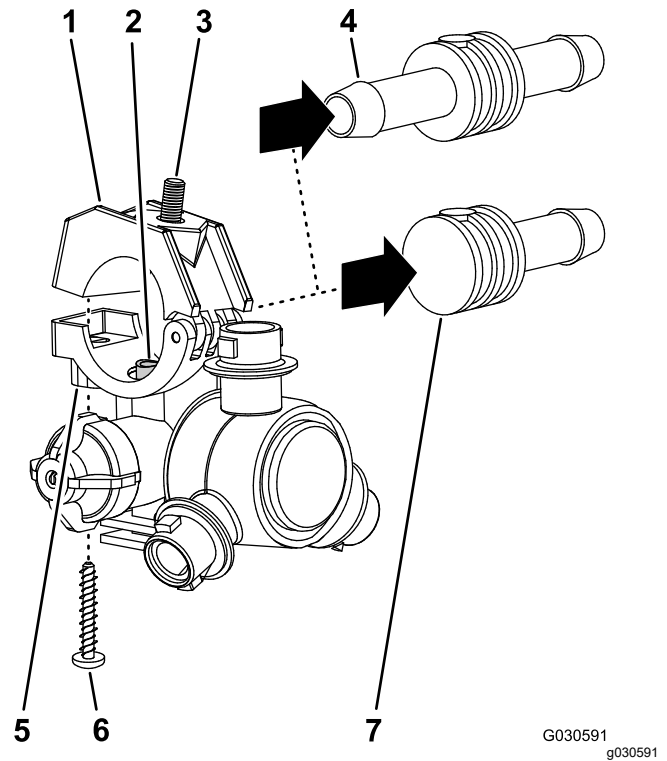

Figure 53
- Remove the stainless steel screw (#12 x 1-1/4 inches) that secures the upper clamp half and double or single barbed-hose shank (3/4 inch) to the body of the sprayer nozzle, and separate the barbed-hose shank and hose from the nozzle (Figure 53).